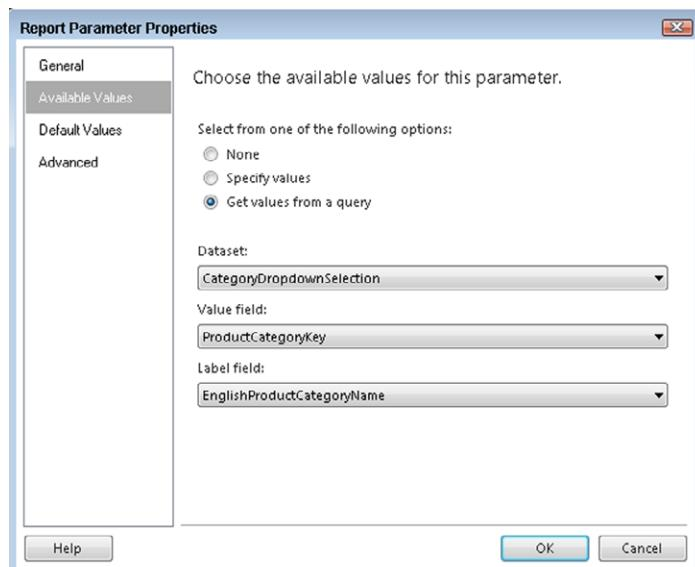

Figure 5-19
11. On the Available Values page, select Get values from a query and change the Dataset to CategoryDropdownSelection. Then change the Value field to ProductCategoryKey and the Label field to EnglishProductName, as shown in Figure 5-19.